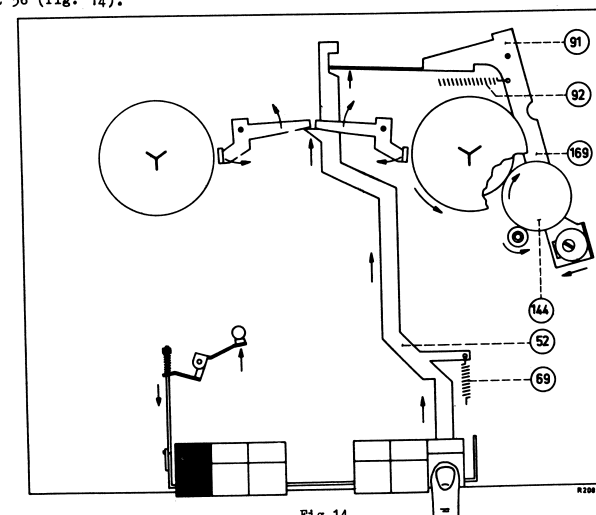

Fig 14
N.B.: In order to prevent looping of the tape, the left-hand reel disc will be braked first by brake 56 and then the reel disc by right-hand brake 68. This is possible because reel bracket 52 falls into the corresponding notch in brake bracket 56 (fig. 14).